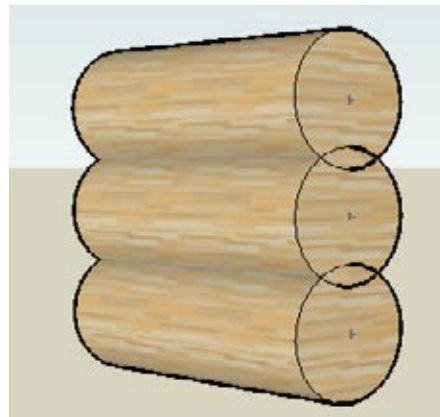

Figure 3-62
3. Stack three cylinder components, evenly spaced, so that they overlap, as shown in Figure 3-62.